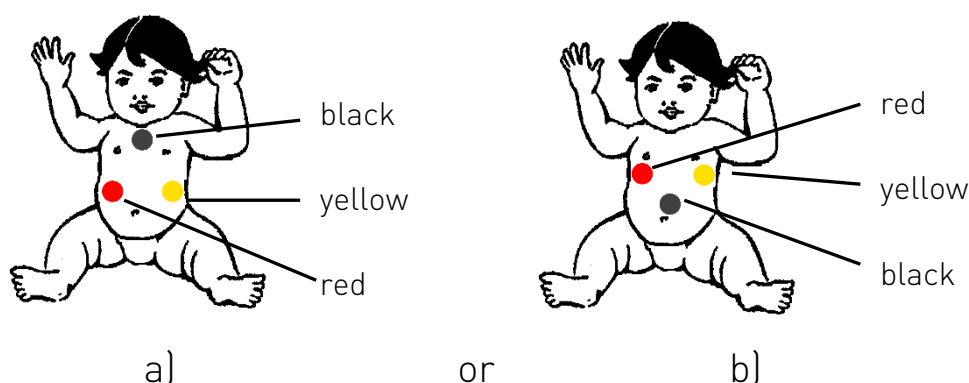
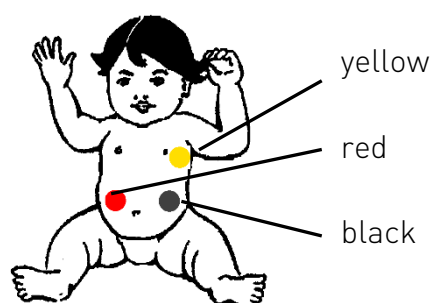

Fig. 21 Recommended Electrode Configurations
Fig. 22 Alternative Electrode Configuration
Start with the electrode configurations depicted in Fig. 21. Place the gel-coated side of the electrode on the chosen site and carefully press it several times for good contact. First arrange:
- the electrodes on infants as depicted in Fig. 21 a)
- the electrodes on all other patients as depicted in Fig. 21 b)
If the electrode configuration depicted in Fig. 21 does not yield a good signal, try the alternative electrode configuration depicted in Fig. 22.